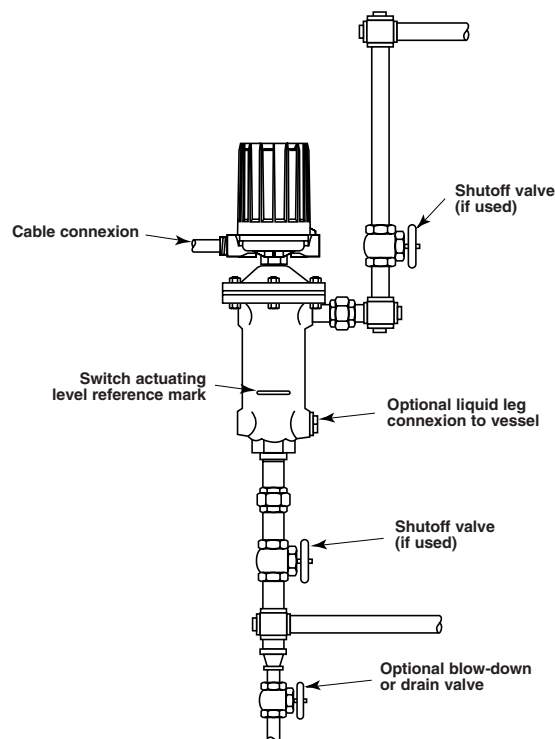

Figure 3
Figure 3 shows a typical piping installation of a Magnetrol float cage control to a vessel or boiler. Level decals on control identify the actuation levels for a unit with three switches at minimum specific gravity. Refer to the Actuation Level charts for the actuation levels for a unit with one switch at different minimum specific gravities.
6. If switch magnet assembly swings freely and mechanism still fails to actuate, check installation of control to be certain it is within the specified three (3°) degrees of vertical (Use spirit level on side of enclosing tube in two place, 90° apart. Refer to **Figure 3** on page 4).